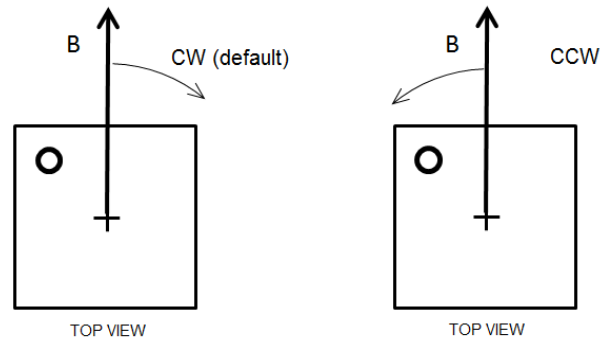

Figure 18: Positive Rotation Direction of the Magnetic Field
By default, when looking at the top of the package, the angle increases when the magnetic field rotates clockwise (CW) (see Figure 18 and Table 12).